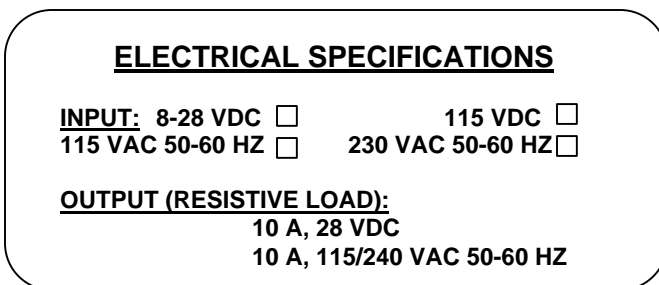

FIG. 1: ELECTRICAL SPECIFICATION PLATE
Refer to the table in Figure 1 on the last page for panel mount diagrams, dimensions, and options.
Before installation carefully check the "Electrical Specifications" plate (See Fig. 1) on each instrument against the receiving paperwork and the intended application for the correct input and output. Make certain that the enclosure (NEMA 4 or NEMA 7) is appropriate for the area in which it is to be installed. Inspect for shipping damage and, if damaged, report it immediately. Verify when the unit is unpacked and in a vertical position that the pointer is on 0.
2. **L.E.D.'S DO NOT COME ON WHEN POWER IS TURNED ON.** Check wiring diagram (Fig. 1) and wiring to make certain that all connections are properly and securely made. Also check to make certain that the proper power input is being provided.